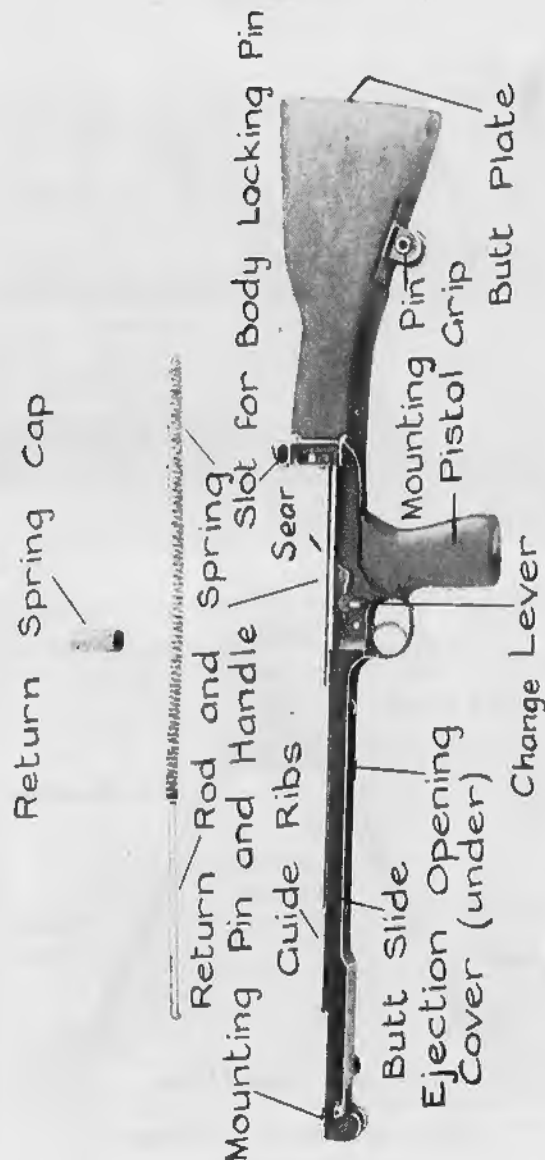

Fig. 4.—The butt group
15. The butt group (see Fig 4).—To strip it, raise the barrel nut (Mark 1 guns only), and pull it away from the rest of the gun.